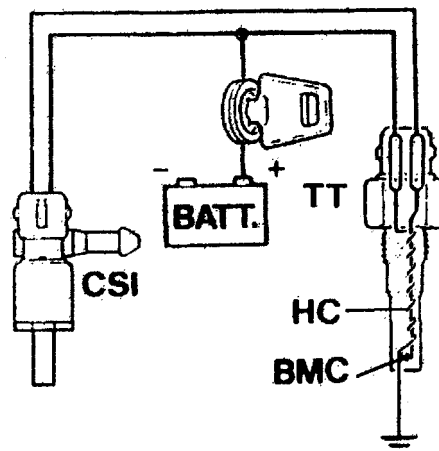

Fig.2.11 Cold start Injector circuit
The cold start injector (CSI) (see fig.2.11) is controlled by a 'thermo time switch' (TT) located in the coolant gallery in the inlet manifold. This unit contains a heater coil (HC) around bi-metal operated contact points (BMC), and works as follows.